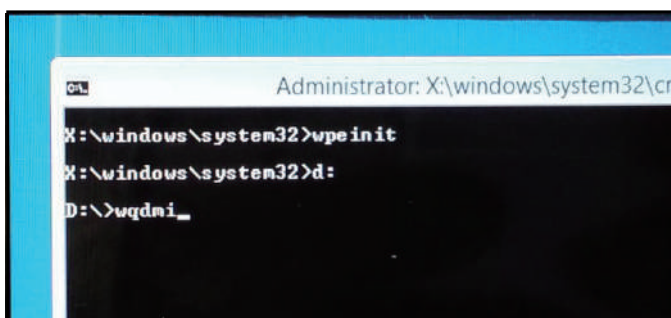

Figure 2-32. WINPE Mode
10. Type `WQDMIx64_v12.0.exe` and press **Enter** (Figure 2-32). To execute a specific function, input the command and the associated parameter as shown in Figure 2-33.